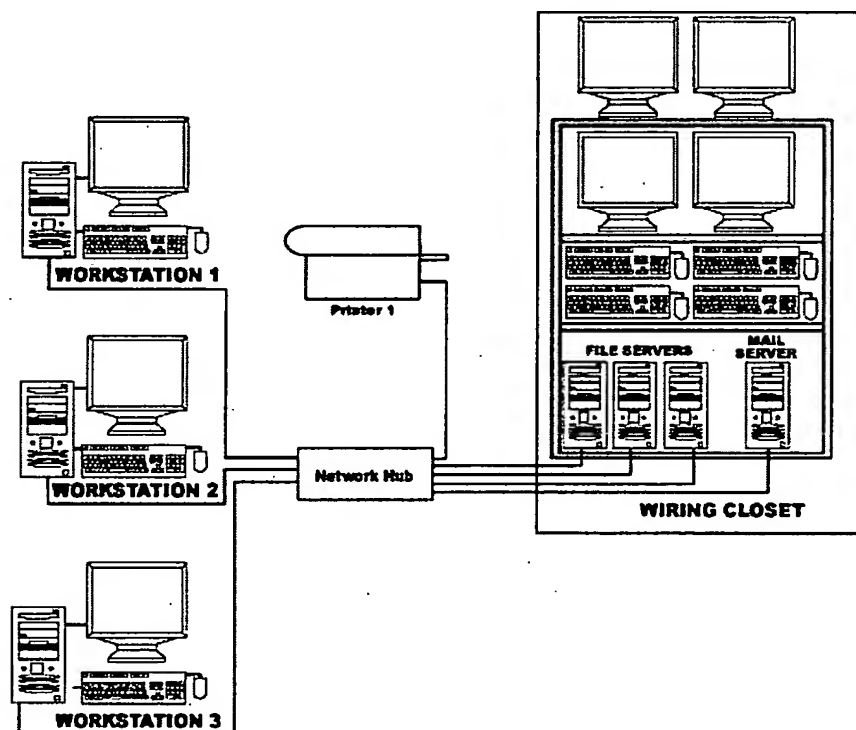
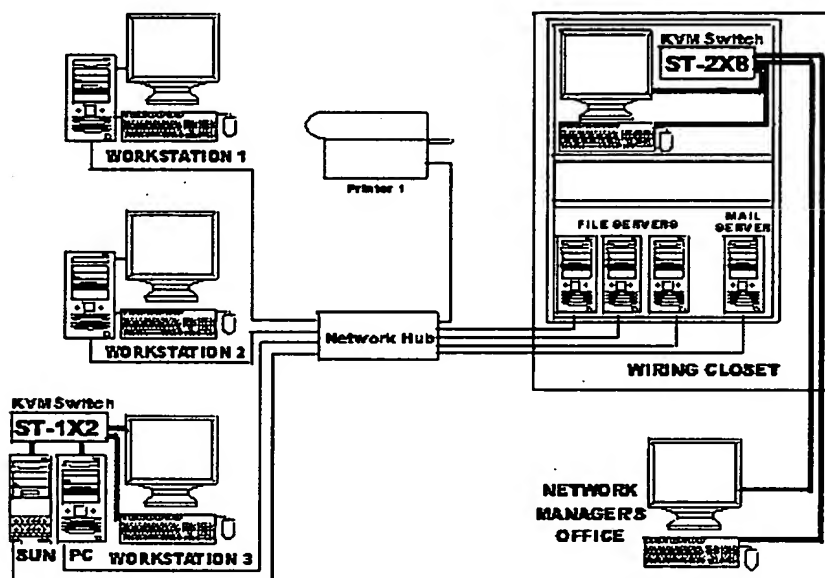

Figure 2 – Diagram of a Server-Based Network Configuration
Figure 3 – Addition of KVM Switches to a Server-Based Network
A KVM switch is not a substitute for networking computers, but rather can add functionality to a network. A *network* utilizes a combination of hardware and software to allow attached computers to share files, printers, and other resources. Computers attached to the network are called *workstations*. Each computer is independent, with shared privileges to the printer and server. In the application illustrated in Figure 2, any workstation can share files or use the printer or servers.
Users on a network with a Windows operating system can access files which reside on other workstations in the network (as long as the other workstations have been set up to allow them access). However, they cannot run programs that reside on the other workstations, or see that workstation's desktop on their monitor. In the application illustrated in *Figure 3*, KVM switches have been added that would provide these capabilities.
- Direct access to the host console port. There are some privileges that the console retains which cannot be accessed from another workstation. *Figure 3* illustrates a modification of the application in *Figure 2*. Here, the KVM switches allow the user to control any workstation connected to the switch with full privileges.
KVM switches are hardware based and transparent to the attached computers. KVM switches do not need special software because they do not change the way the computer operates or interacts with users. The modification illustrated in *Figure 3* includes some applications for KVM switching. A Sun® computer is added to Workstation 3's workspace. The user at Workstation 3 can now control both the Sun and PC computers with one keyboard, monitor and mouse. The addition of an NTI ST-2x8 multiple-user/multiple platform matrix KVM switch with *On Screen Display (OSD)* and *Security Features* in the server room will allow a network administration staff to control multiple computers (PCs, Suns and Macs) from both the network administration office and the server room.